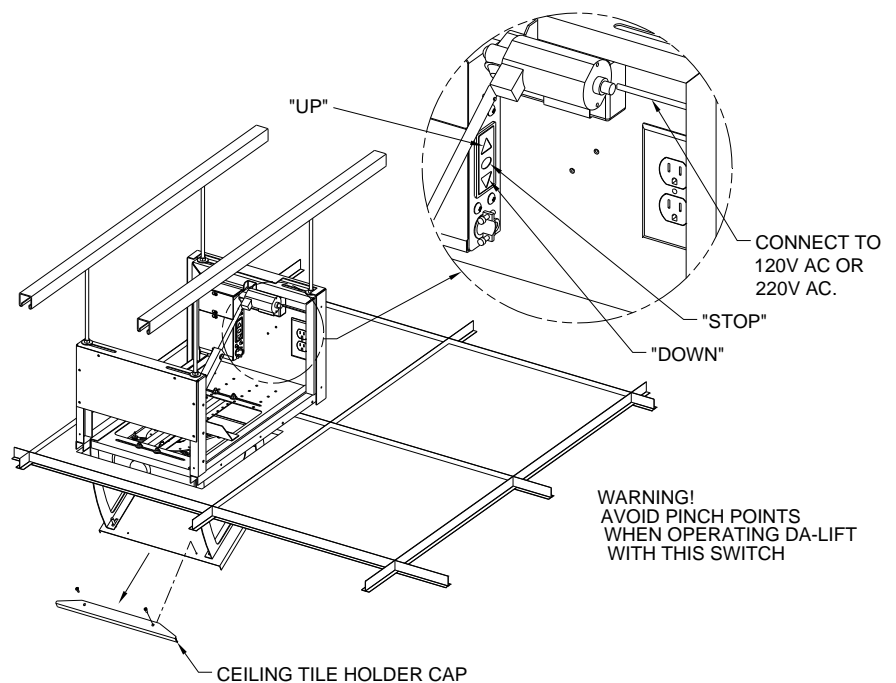

Figure 10
- Lower Da-Lift by connecting the power supply to 120 volt or 220 volt AC power. Use the switch shown to operate the Da-Lift. See Figure 10. The "Stop" button is needed only for intermediate stopping. **WARNING! Avoid pinch points when operating Da-Lift with built-in switch.**